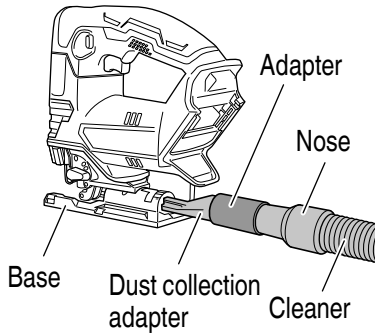

Fig. 32
- (3) Connect the dust collection adapter with adapter. (Fig. 32)
- (4) Connect the adapter with the nose of cleaner. (Fig. 32)